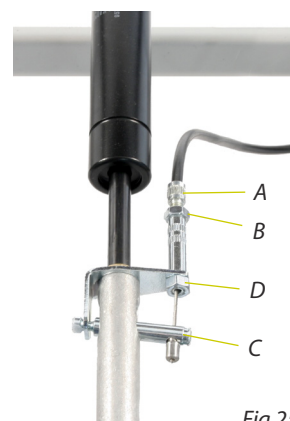

Fig 25
The cable is adjusted by a sleeve (A, fig 25) by the gas spring. Follow these steps:
1. Loosen the nut (B, fig 25) and screw the sleeve (A, fig 25) fully in so that the wire is as slack as possible.
2. Loosen the nut (D, fig 25) completely and thread the sleeve out of the plate together with the nipple connector out of the pin.
The drive wheel has an axle (A, fig 25) which is plugged into the hub (B) from the inside, through two bearings (C) and secured with a retaining ring (D) on the outside. To change the axle the cover plug (E) is pryed off and then the retaining ring can be removed and the axle drawn out. Note that 20"- and 24"-wheels have the same axles but the 16"-wheel has a shorter version.